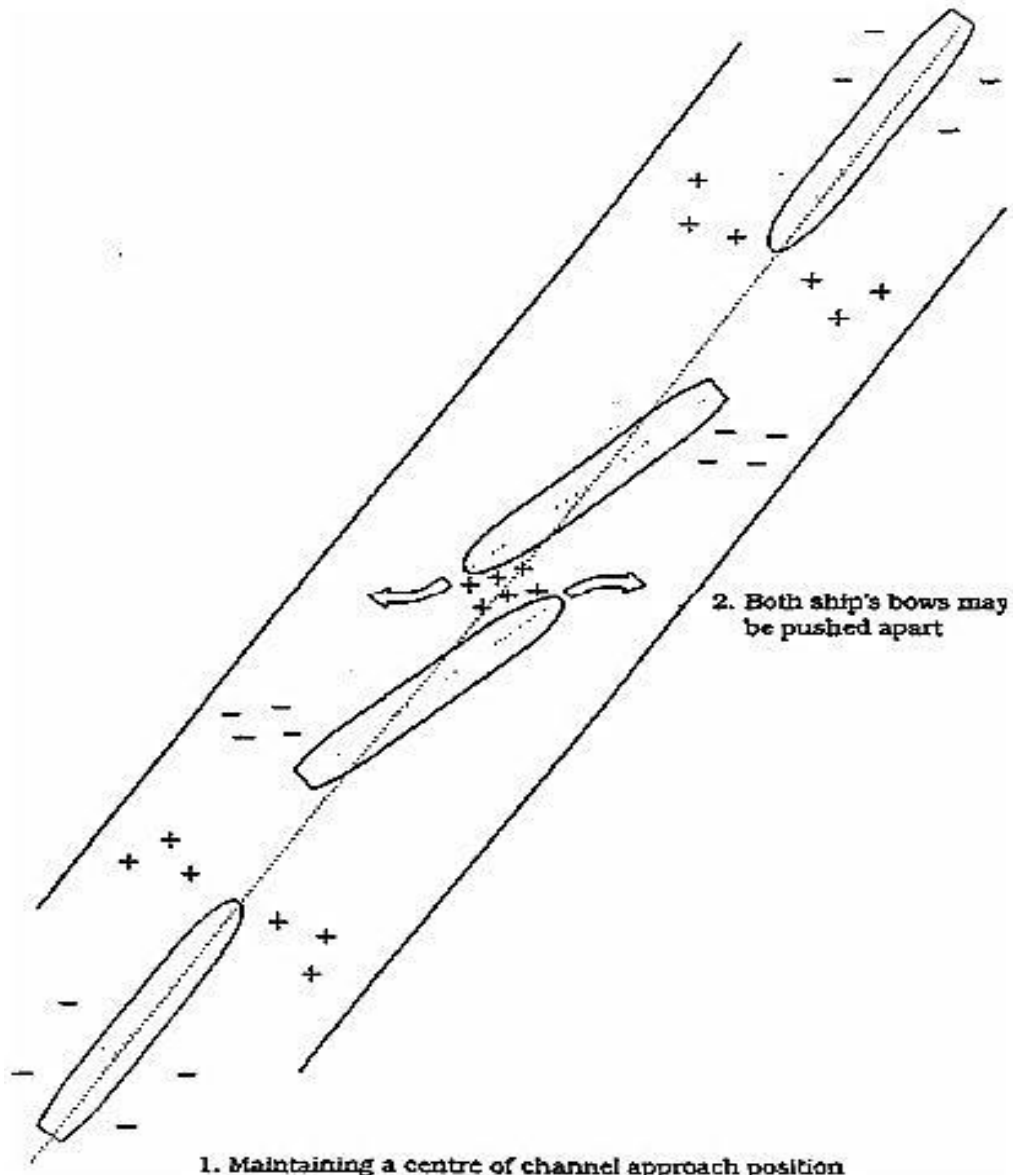

Figure 6-8 Passing - Phase 1
Ans:- Passing:- In the interests of both simplicity and clarity the sequence of events during a 'meeting end on' manoeuvre are contained in figures 6-8, 6-9 and 6-10.
- e) Figures 6-8 to 6-13 illustrate the anticipated sheers that may develop throughout each manoeuvre and the maximum corrective helm that may be required, in this case 35°.